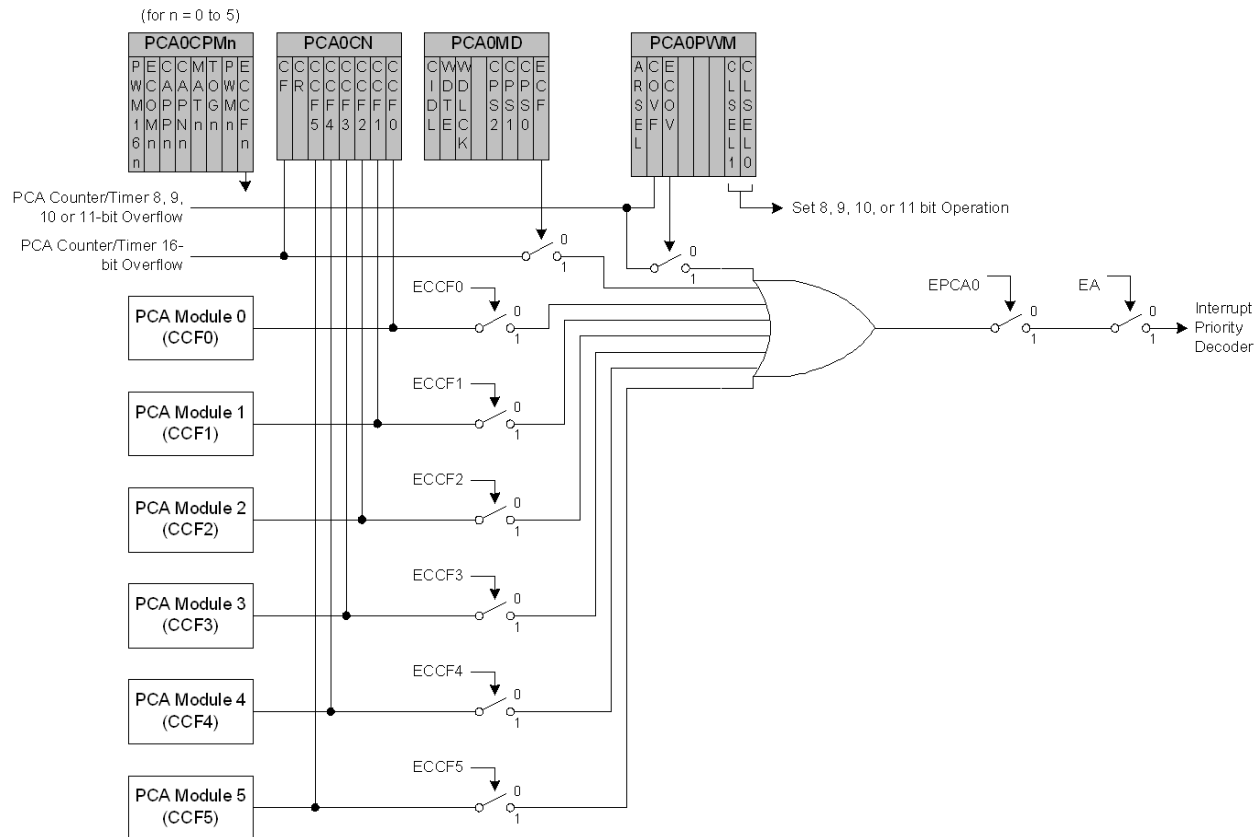

**Figure 33.3. PCA Interrupt Block Diagram**
Figure 33.3 shows a diagram of the PCA interrupt tree. There are eight independent event flags that can be used to generate a PCA0 interrupt. They are: the main PCA counter overflow flag (CF), which is set upon a 16-bit overflow of the PCA0 counter, an intermediate overflow flag (COVF), which can be set on an overflow from the 8th, 9th, 10th, or 11th bit of the PCA0 counter, and the individual flags for each PCA channel (CCF0, CCF1, CCF2, CCF3, CCF4, and CCF5), which are set according to the operation mode of that module. These event flags are always set when the trigger condition occurs. Each of these flags can be individually selected to generate a PCA0 interrupt, using the corresponding interrupt enable flag (ECF for CF, ECOV for COVF, and ECCFn for each CCFn). PCA0 interrupts must be globally enabled before any individual interrupt sources are recognized by the processor. PCA0 interrupts are globally enabled by setting the EA bit and the EPCA0 bit to logic 1.